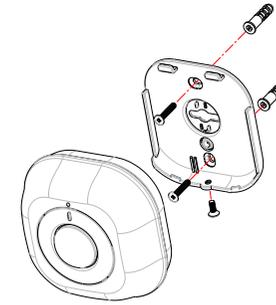

FIGURE 3b
4. Engage the HSD-200Z detector to the bracket firmly. (FIGURE 3b.)